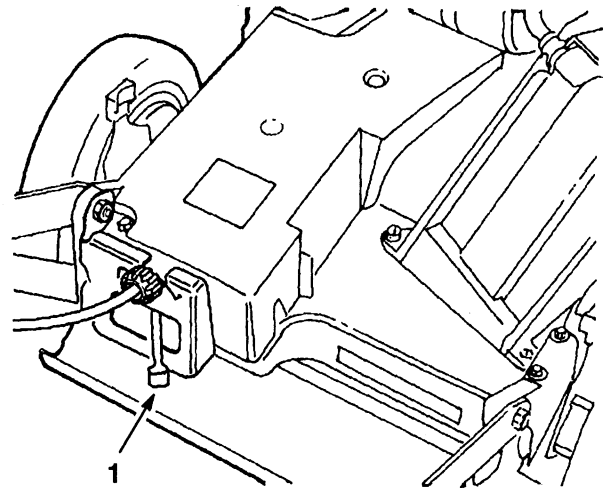

Figure 8
3. **STARTING**—Move ground speed control to **N** NEUTRAL (Fig. 8) and throttle to **CHOKE**. Lift the control bar to handle and hold. Pull fingertip starter out until positive engagement results; then pull vigorously to start the engine.